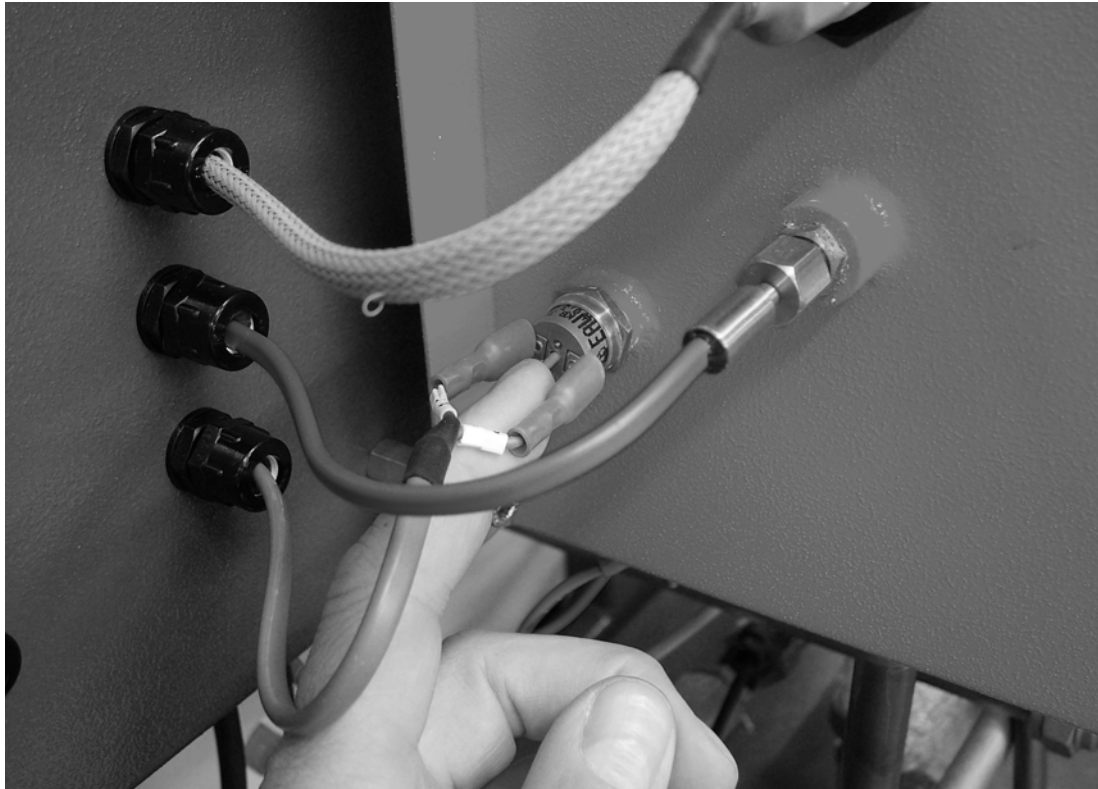

Figure 55 Thermal Switch on the Heater Tank
3. Check the thermal switch on the heater tank. Disconnect your mains supply, then gently press its reset button (see Figure 55). Reconnect the mains supply and try the equipment again.